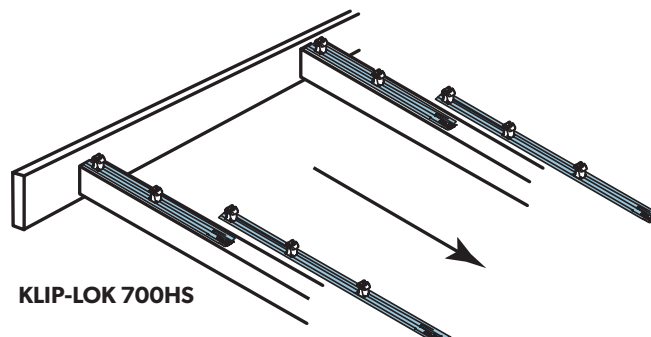

Figure 9.1.3
- 2 Position the first clips on each support by placing onto the support nearest the roof edge. (Figure 9.1.3)